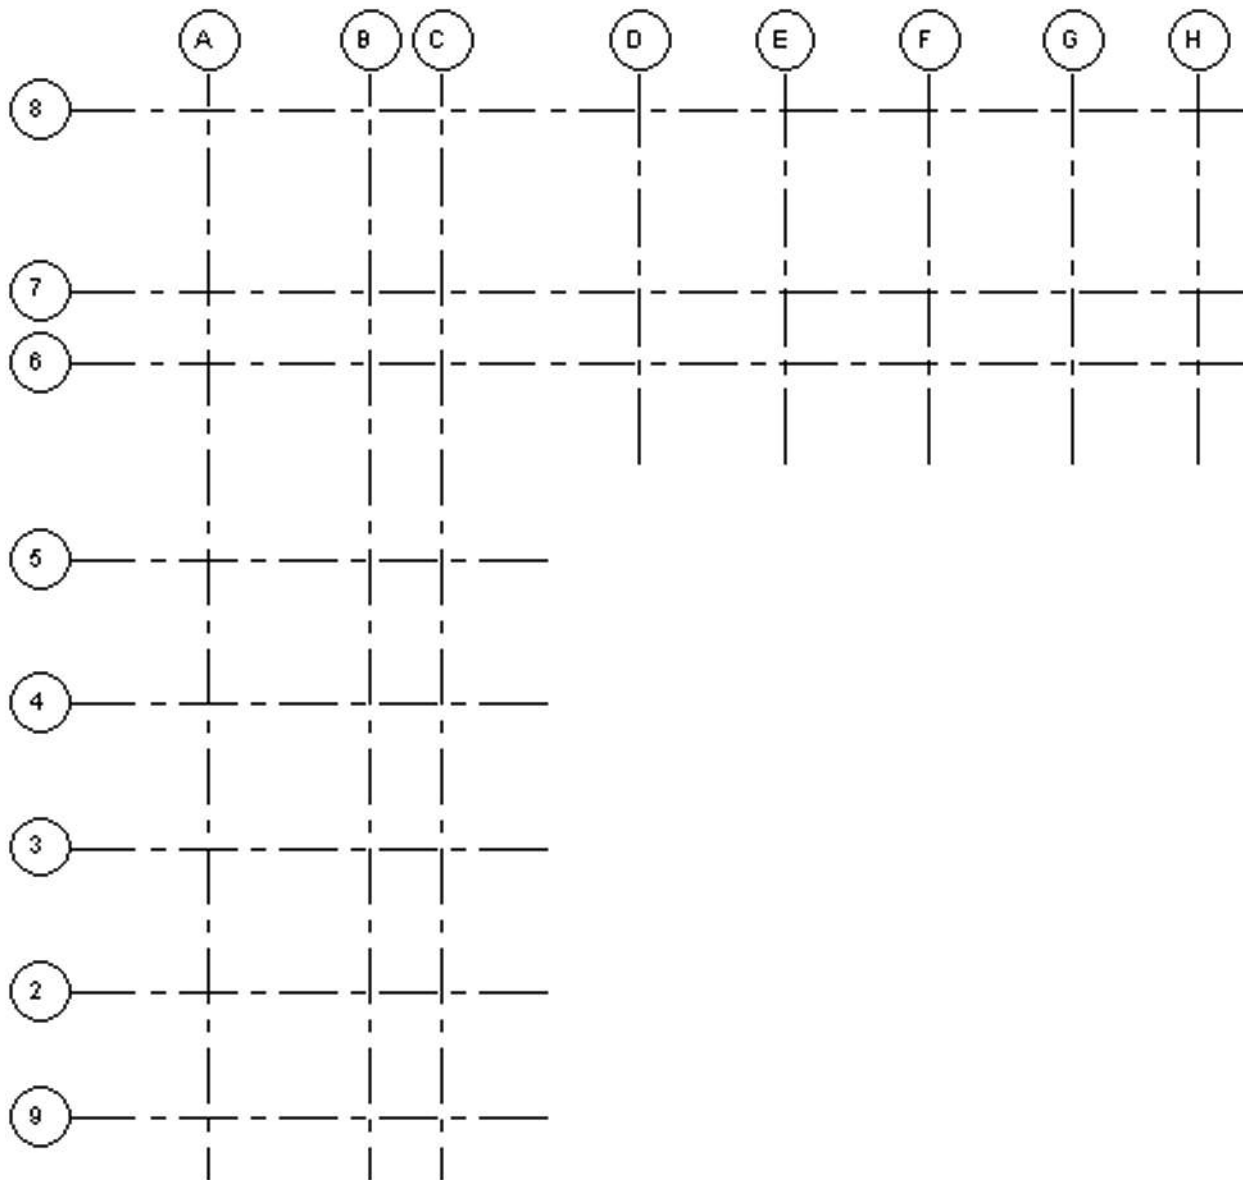

Fig. 1.21 – Project Grid
4. In this way change the length of other Grid lines as shown in Fig. 1.21.